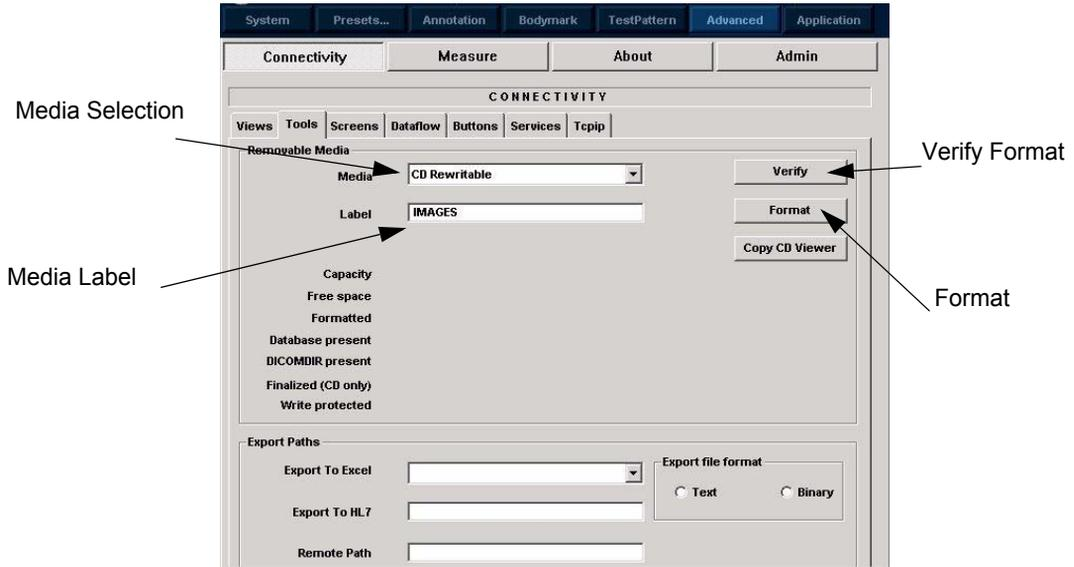

Figure 4-53 Format and Verify Media
- 4.) Enter the label for the media as shown in Figure 4-53. It is best to use all capital letters with no spaces or punctuation marks. Press Format.
- 6.) If desired, verify that the format was successful by returning to *Utility>Connectivity>Tools* and selecting VERIFY as shown in Figure 4-53.